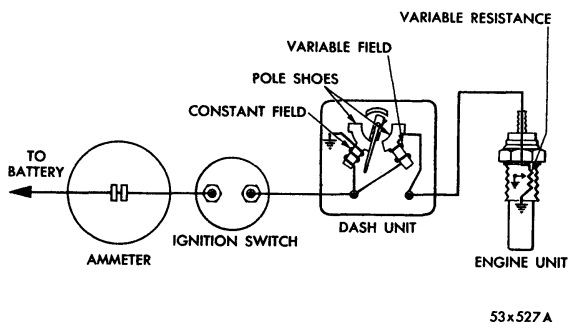

Fig. 8—Water Temperature Gauge
5. WATER TEMPERATURE GAUGE (Fig. 8)